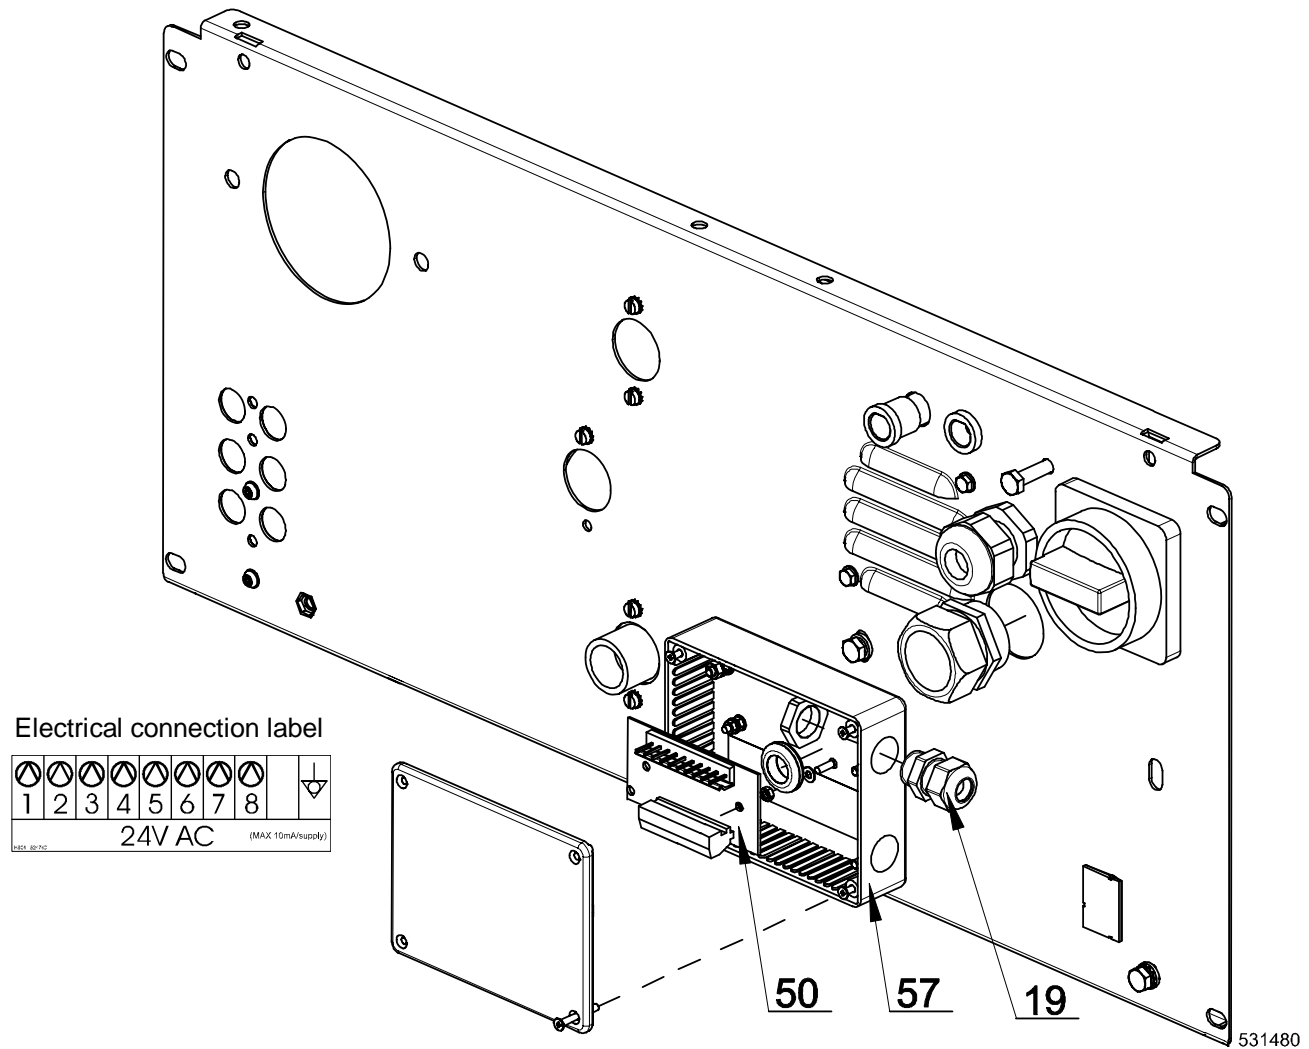

Fig.4.9.B Rear panel
For electric connection of supply control signals a plastic box is available on the back side of the machine (see fig.4.9.B., pos.57) with the terminal box with LED signalization of activation of the respective pump, (pos.50). Under the terminal box there is a label for electric connection, fig.4.9.B. Detail connection of signals could be also found on the electric scheme of the machine. Signals for supply pumps control are 24V AC. Maximum current for control circuits of pumps must be limited to 10mA. Lead the cable for connection of pumps control signals through the plastic cable bushing, pos.19. After connection of conductors to the respective positions of the connector „P“ (screw clamps), fix up the cable by tightening the cable bushing against disconnection and close the box with the cover. For details about liquid soap supply system programming, see Programming manual.